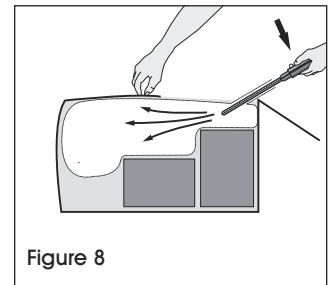

Figure 8
7. Continue to hold the three box flaps closed while the bag inflates. (See Figure 8)